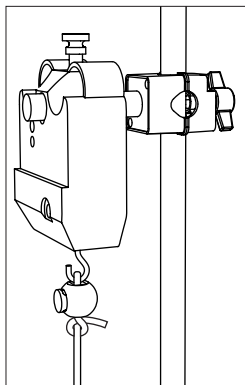

Figure 11: Force sensor on rod
5. Mount the force sensor on the stud (Figure 11).